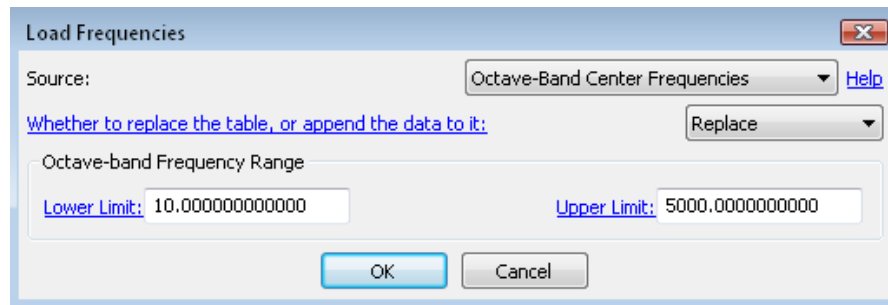

Figure 7.18: Load center frequencies of an octave band.
- Select one of the $1/N$ Octave-Band Center Frequencies from the **Source** drop-down menu. Figure 7.18.